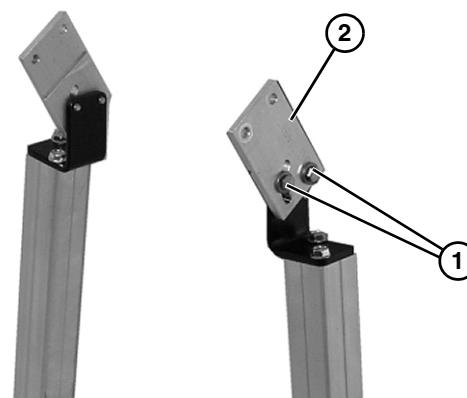

Figure 3
2. For slotted brackets, loosen the two bracket bolts (**Figure 3, item 1**) and adjust the bracket (**Figure 3, item 2**) so that the top is at approximately the same angle as the conveyor. Do not tighten the bolts.